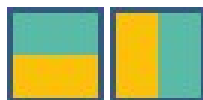
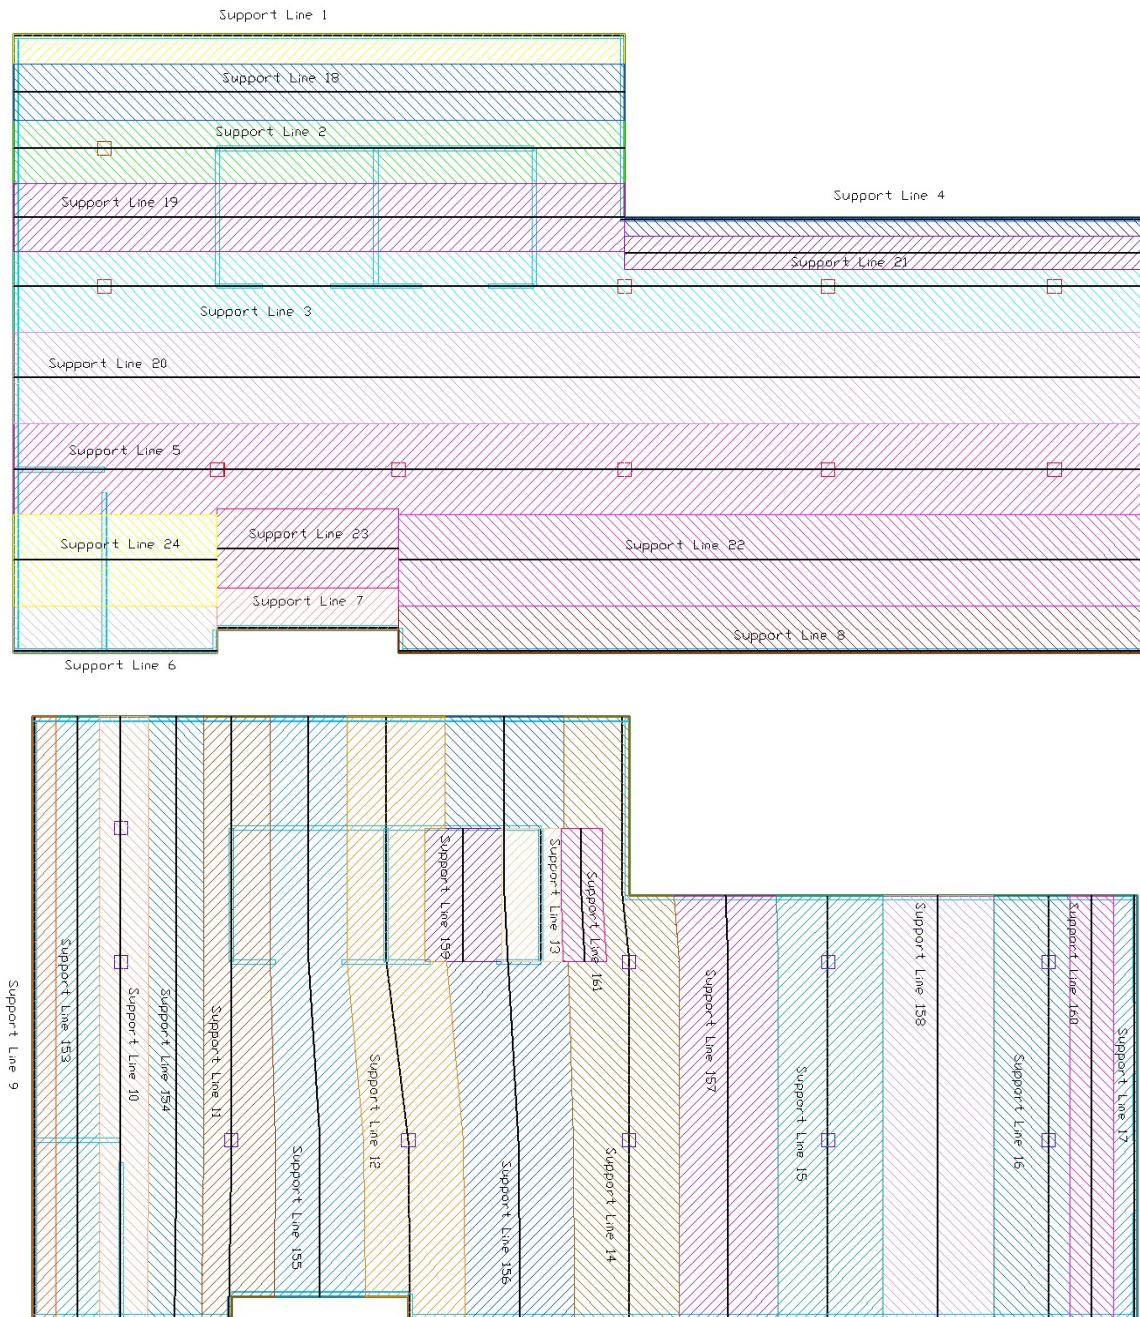

Figure 4.2-3 - Design Strips in X- and Y- Direction
Figure 4.2-4 - Column and Middle Strips in X- and Y-directions
- Use **Floor Design | Strip Results/Visibility | Display/Hide X- or Y- Tributaries** to view the generated column strips and middle strips in either direction as shown in **Figure 4.2-3**. Middle and column strips are shown hatched in **Figure 4.2-4** for this example.